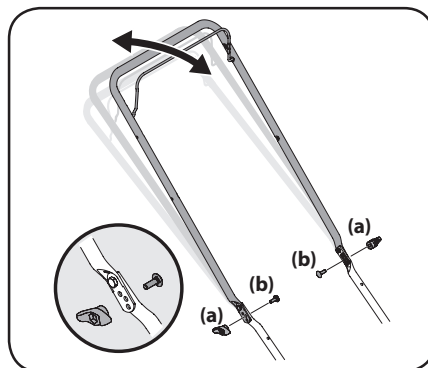

Figure 2-13
1. Remove wing nuts (a) and carriage bolts (b) from handle. See Figure 2-13.
2. Position the handle in one of the three positions that is most comfortable. See Figure 2-13 inset.